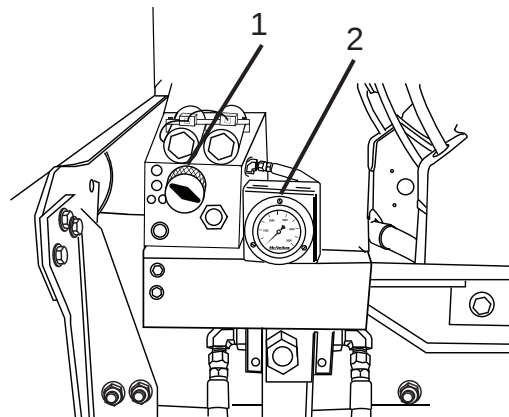

Figure 66
3. Turn the PRV knob (Figure 66, Item 1) all the way counterclockwise to minimize the pressure applied to the Bridgemaster trailer when the drum is empty. Pressure will be displayed on the gauge (Figure 66, Item 2).